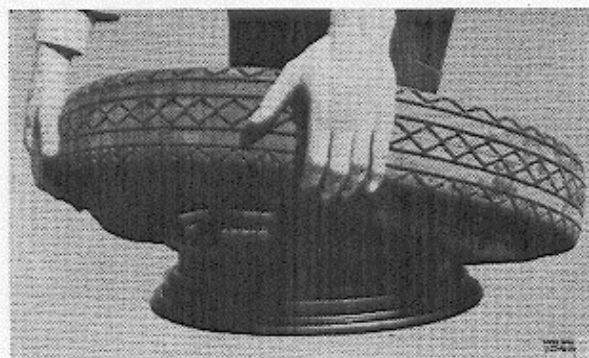

Fig. 20. Removing the tyre.
5. Grip the tyre, near the valve, with both hands and pull it off the rim (Fig. 20).